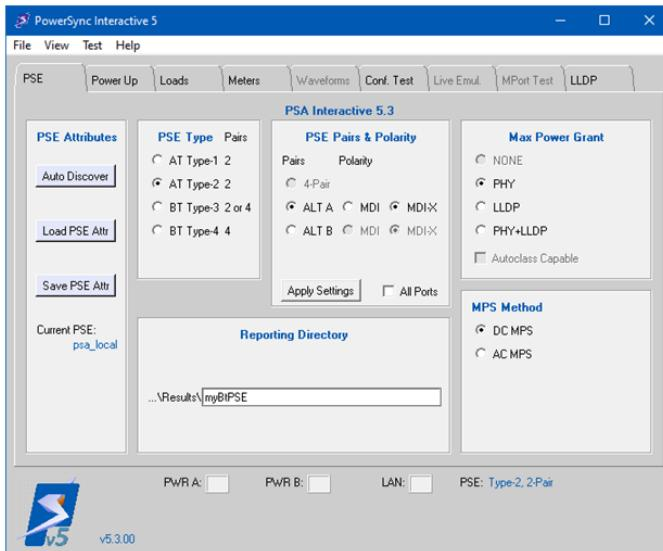

Figure 4.6 PSE Tab Menu
- The Tab Menu Window (see **Figure 4.6**)
Many of the testing and analysis functions available in PSA Interactive software depend on or benefit from knowing some basic facts about the PSE to be evaluated. With the introduction of the IEEE 802.3bt standard, PSE ports now appear in many “flavors” and the means by which those ports are evaluated is very dependent on these facts, or **PSE Attributes**. This is why the **PSE** tab menu is the first menu to appear when PSA Interactive opens (see **Figure 4.6**).
Pressing the **Return** button closes the Auto Discover Dialog and re-activates the PSE tab menu window. The PSE Type and Powered Pairs displayed in the lower right corner of the main PSA Interactive window (*see Figures 4.6 and 4.8*) will update automatically to the discovered PSE attributes.